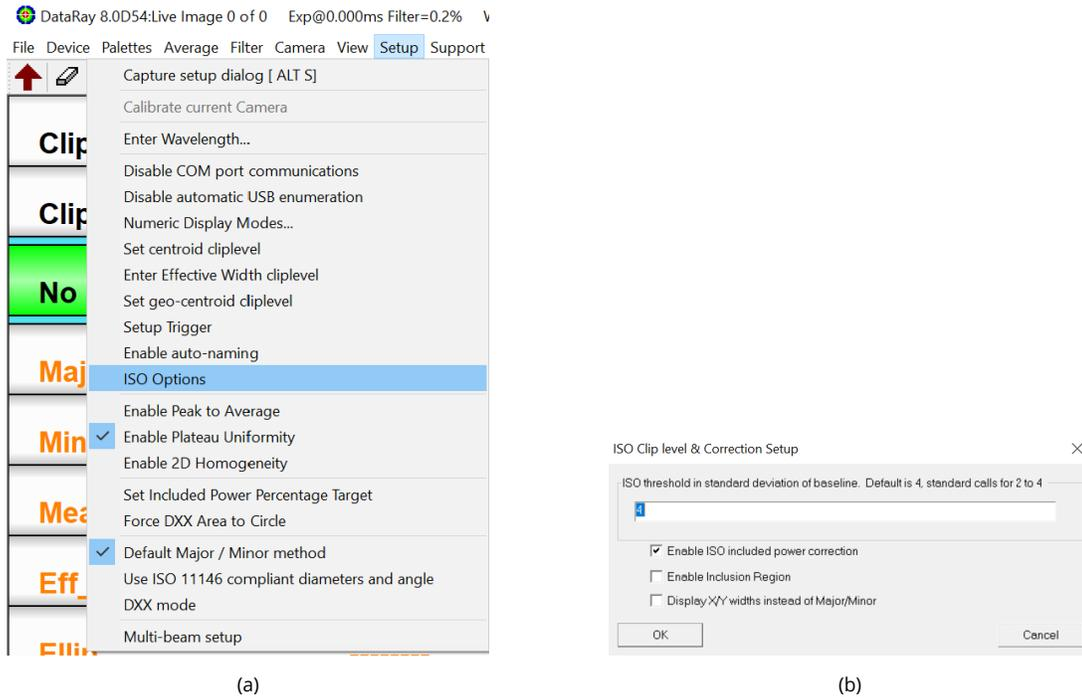

Figure 9.18: (a) Choose ISO Options to change the ISO threshold value. (b) ISO Clip Level and Correction Setup dialog box.
²The ISO 11146 Standard calculations, even when used to find the beam waist of a perfect Gaussian beam, result in a beam waist diameter that is smaller than expected. DataRay has a proprietary correction factor, enabled by default, to correct this discrepancy. This can be disabled in the ISO Clip Level & Correction Setup dialog box (Fig. 9.18).
- The ISO threshold defines which pixel values can be ignored based on a factor of the standard deviation of the baseline. The ISO threshold option can be accessed by choosing ISO Options from the Setup menu (Fig. 9.18a). The ISO standard calls for a factor from 2 to 4, so try changing this value from 2 to 4 or vice versa in the ISO Clip Level and Correction Setup dialog box (Fig. 9.18).